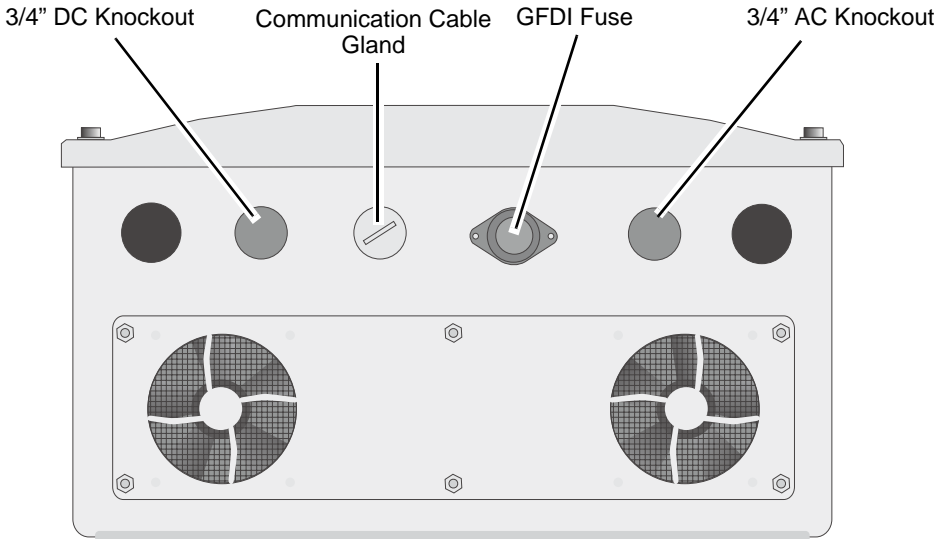
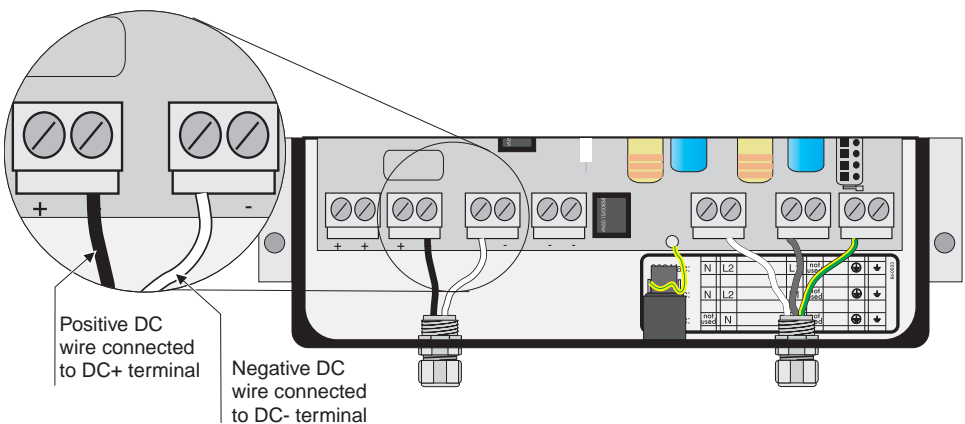

Figure 5-1 Bottom View of the Sunny Boy 6000U Showing 3/4" Wiring Knockouts
Figure 5-10 DC Connection Terminals
The DC input from the PV array (via the DC disconnect enclosure) and the output to the AC utility grid connect to the inverter inside the SB6000U's case. The internal AC and DC wiring terminals accept a maximum wire size of #6 AWG. Knockouts are provided on the bottom of the SB6000U near each of the terminals for the wires to enter the case, see Figure 5-1.
4. Install a 3/4-inch conduit fitting in the SB6000U's AC wiring knockout (the knockout on the right side of the SB6000U, as shown in Figure 5-1). Fasten the conduit fitting on the inside of the SB6000U with the appropriate locknut.
3. Install a 3/4-inch conduit fitting in the *SB6000U*'s DC wiring knockout. The DC knockout is the one farthest to the left on the bottom of the *SB6000U*, as shown in Figure 5-1 and Figure 5-10. Fasten the conduit fitting on the inside of the *SB6000U* with the appropriate locknut.
Note: Refer to Figure 5-10 for steps 5 through 7.
1. Connect the three wires of the RS-485 cable to terminals 2, 5, and 7 of the communication terminal block as shown in Figure 5-10. Record the wire color used for each of the terminals.